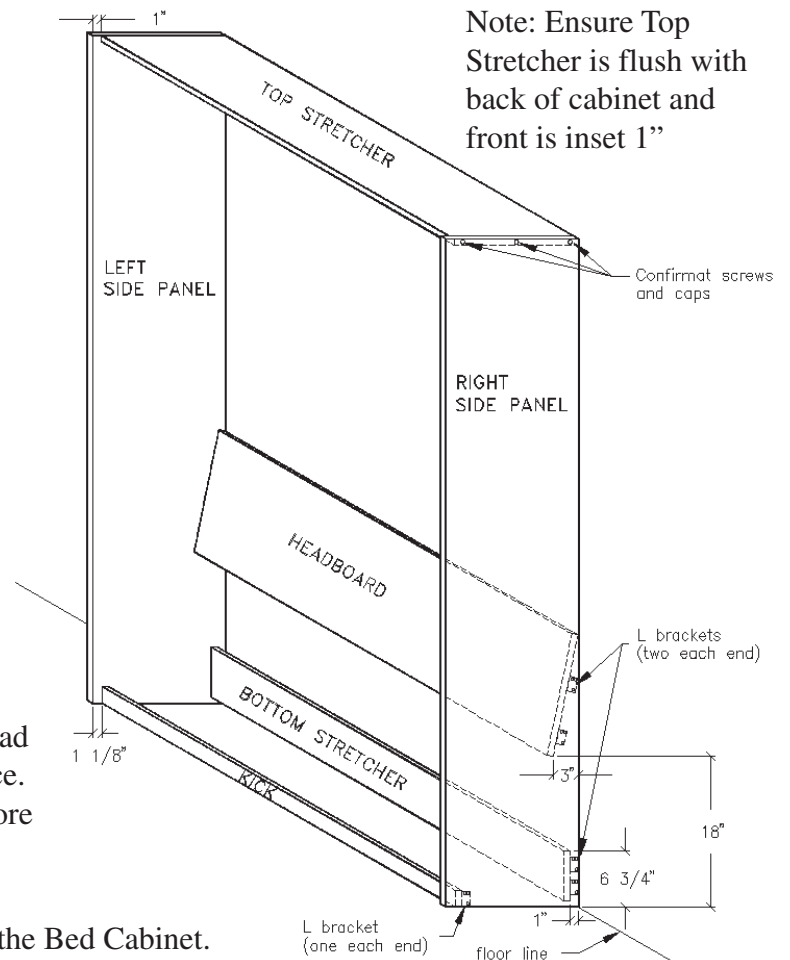

Figure 1. The parts of the Bed Cabinet.
- Cut panels and cleats exactly as specified in the Cut List. As each piece is cut, identify it with a pencil as indicated in **Figure 1**, following page. Label the bed panels (not shown in **Figure 1**) BED PANEL. These names will be used throughout the instructions to reference the particular items.
- Make a small mark on the inside of each SIDE PANEL, 3" from the back and 18" from the bottom. From this mark measure up and back 14 7/8" to the back edge of the SIDE PANELS. Make another mark and pencil a line to indicate the back of the HEADBOARD position. See **Figure 1**.
- Attach 1" x 1" x 1 3/4" assembly brackets to the HEADBOARD, BOTTOM STRETCHER and KICK as per **Figure 1**. Note that the top brackets of the HEADBOARD must be set low enough so as not to protrude beyond the back of the cabinet. If you will be notching out SIDE PANELS to accommodate baseboard, attach BOTTOM STRETCHER brackets to front side.
- Prior to assembling the Bed Cabinet, you may wish to apply your choice of finish to the individual pieces. Once this is done, you can begin assembling the Bed Cabinet - this should be done in the room where you will install it. Refer to **Figure 1** for positioning and dimensions. Prop up one SIDE PANEL and the TOP STRETCHER on their back edges and attach with Confirmat screws. Attach other SIDE PANEL. Press fit the Confirmat caps.